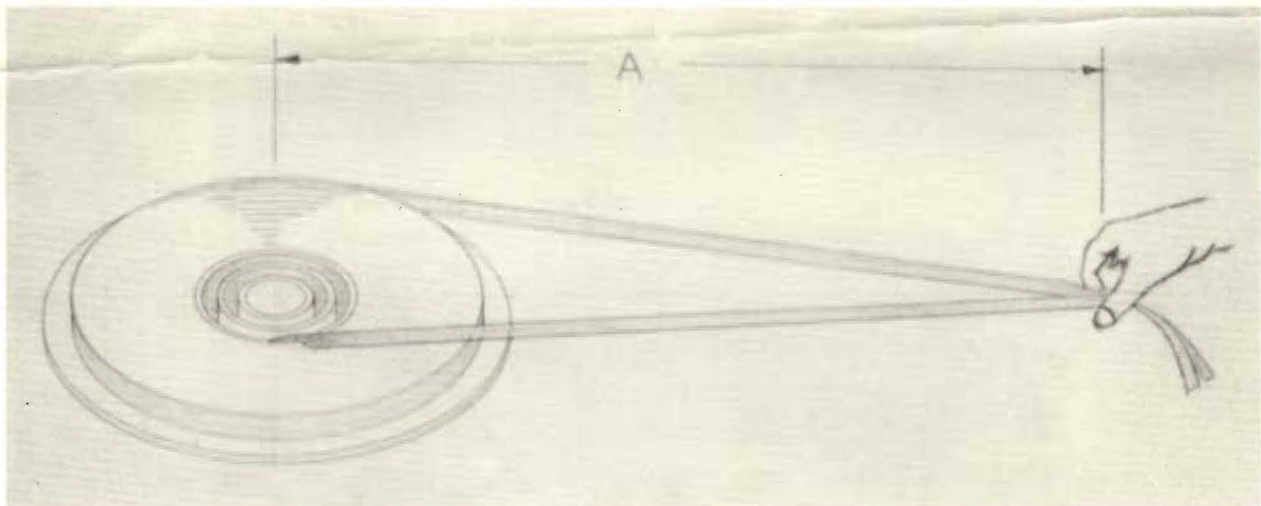

Figure 7
- J. Splice tape ends in conventional manner, making sure that there are no twists in either strand. (See Figure 7).